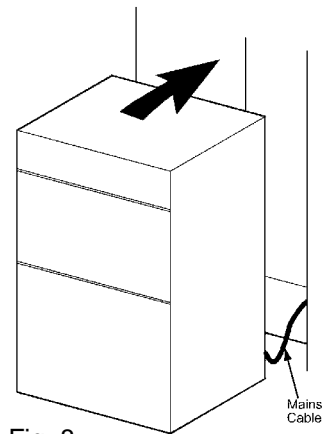

Fig. 8
- Position the appliance in front of the cabinet. See Fig. 8.